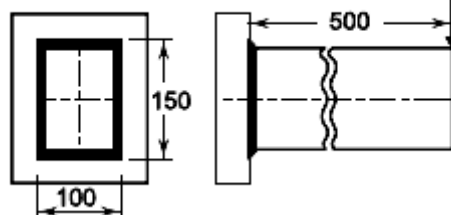

Fig. 3
- (c) A beam of rectangular cross section is welded to a support by means of fillet welds as shown in Fig. 3. Determine the size of the welds, if the permissible shear stress in the weld is limited to 75 N/mm^2 . **07**